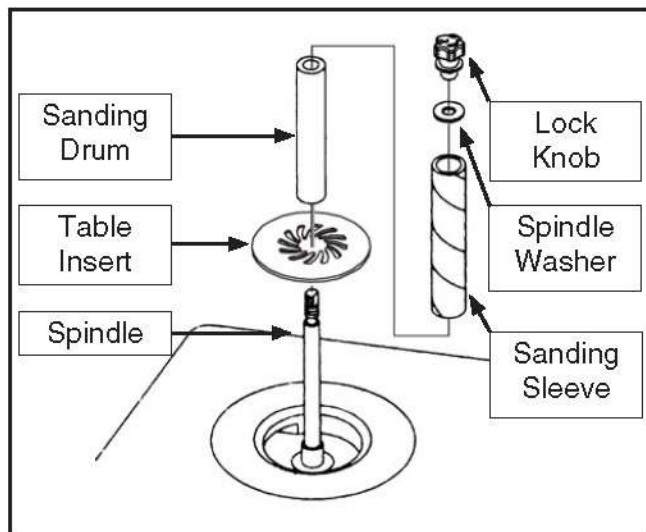

Figure 13. Sleeve installation order.
5. Install the desired sanding drum on the spindle shaft, then install the corresponding sanding sleeve on the drum, referencing **Page 17**, as is shown in **Figure 13**.